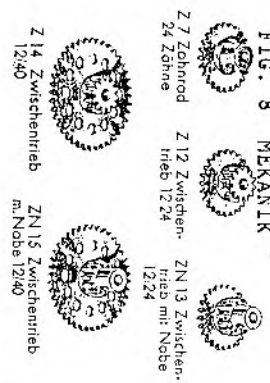
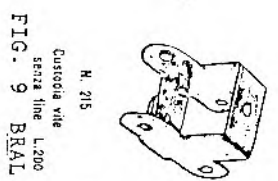

FIG. 8
FIG. 9
**Gears** Aside from the variety of Meccano-compatible gears now available, and even separate complete systems such as Perfected Products (U.K.), compactness is most desirable in gear mechanisms. Mekanik (West Germany) has a series (#212 to 217) of "Zwischentrieb" or intermediate gears which comprise a gear and pinion in one piece, saving a great deal of space (Fig. 8). Several systems have ingenious gear housings. Am/Lac, M&Klin, Bral and Edison (Czechoslovakia) list essentially the same rectangular housing for two shafts such as a worm and pinion (Fig. 9). Motec (Germany) had an ingenious one-piece gearbox frame #20 which accommodated as many as four shafts (Fig. 10). Erector had a #250 large gear without boss (not Meccano-compatible), also a good idea for saving space in for instance a turntable drive, but the need for this has now decreased with several sizes of new gear rings providing open centers through the drive. One or two systems also seem to have had smaller gears without boss, but there is no indication of their stability on a shaft.